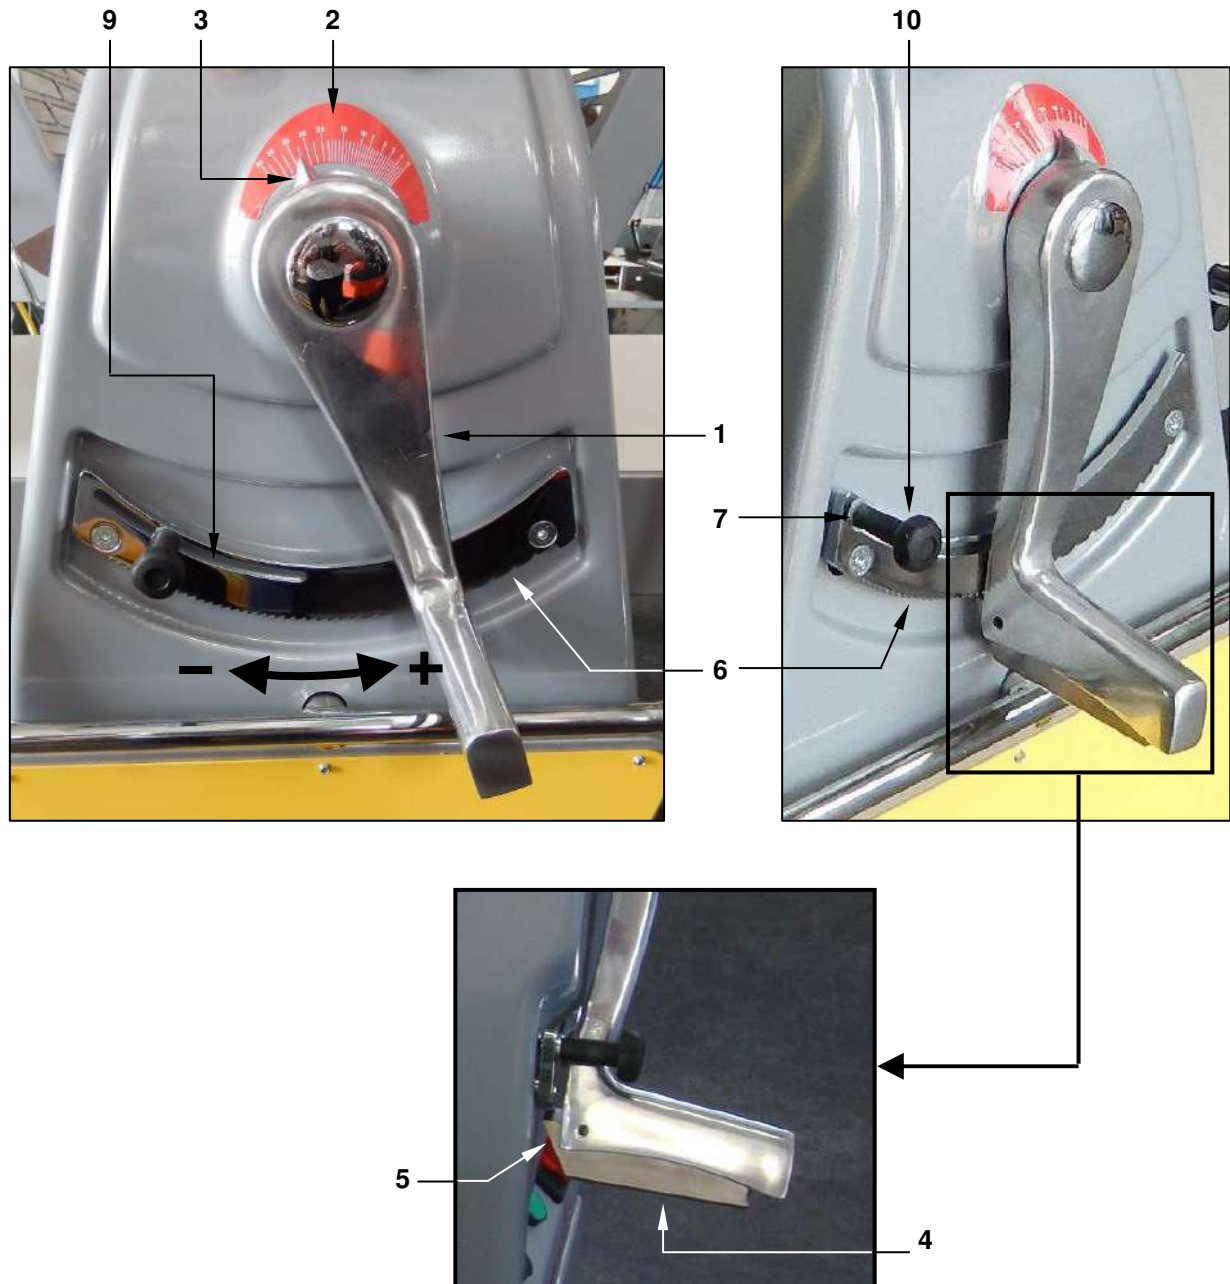

Figure 5 - Rolling thickness adjustment
With reference to Figure 5, adjusting the position of lever ref. 1 (handle) modifies the distance between the rollers and allows the thickness of the sheet of dough to be regulated. Turning the handle clockwise decreases the rolling thickness, turning it anticlockwise increases it.